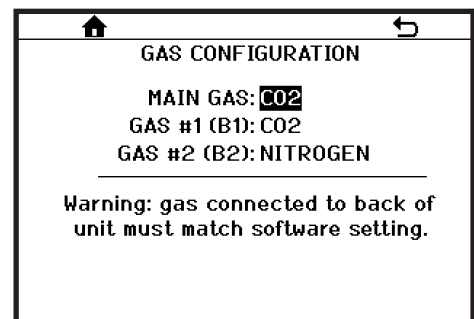
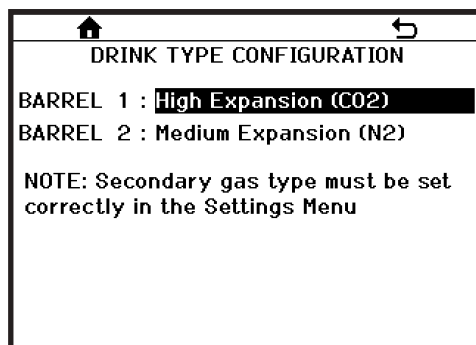

Figure 7.18
Figure 7.19
- **DRINK TYPE CONFIGURATION:** Used to configure the drink type (medium or high expansion) based on selected gas (Figure 7.19). Settings will only be available on dispensers with multi-gas, multi-flavor functionality.
- For universal gas dispensers, each of the gas connections will need to be set up with the correct gas: MAIN GAS, GAS #1, and GAS #2 (Figure 7.18). MAIN GAS is the gas that drives the water pump, active charge system, and pneumatic faceplate and can use COMP AIR (compressed air), CO2, or NITROGEN. GAS #1 and GAS #2 (for 772 multi-flavor) is the gas that is injected into the product in the barrel(s) and can use CO2 or NITROGEN. It is important that the correct gas be selected in order to set up the DRINK TYPE CONFIGURATION (Figure 7.19) correctly.